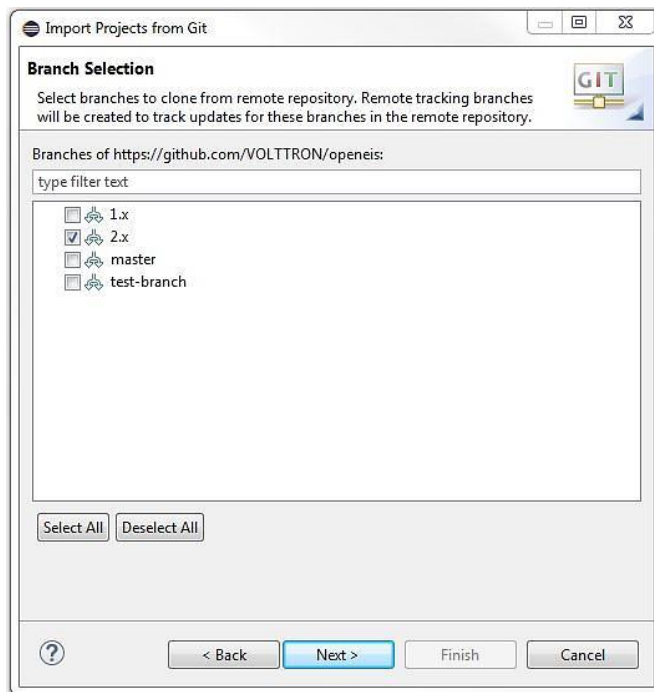

Figure 22: Checking Out OpenEIS with Eclipse from GitHub (continued)
5. Select the 2.x branch (Figure 22)